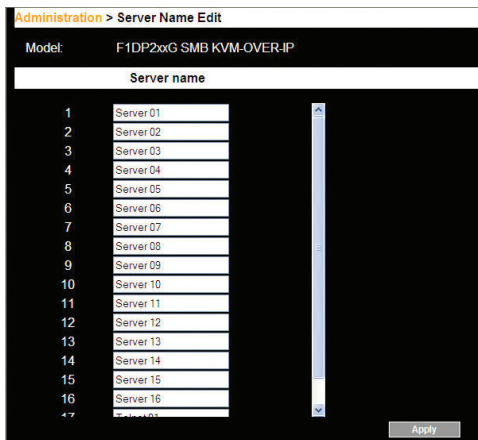

Figure 17 Switch Configuration
1. From the menu, click “Server Name Edit”. The Switch Configuration window appears (see Figure 17).